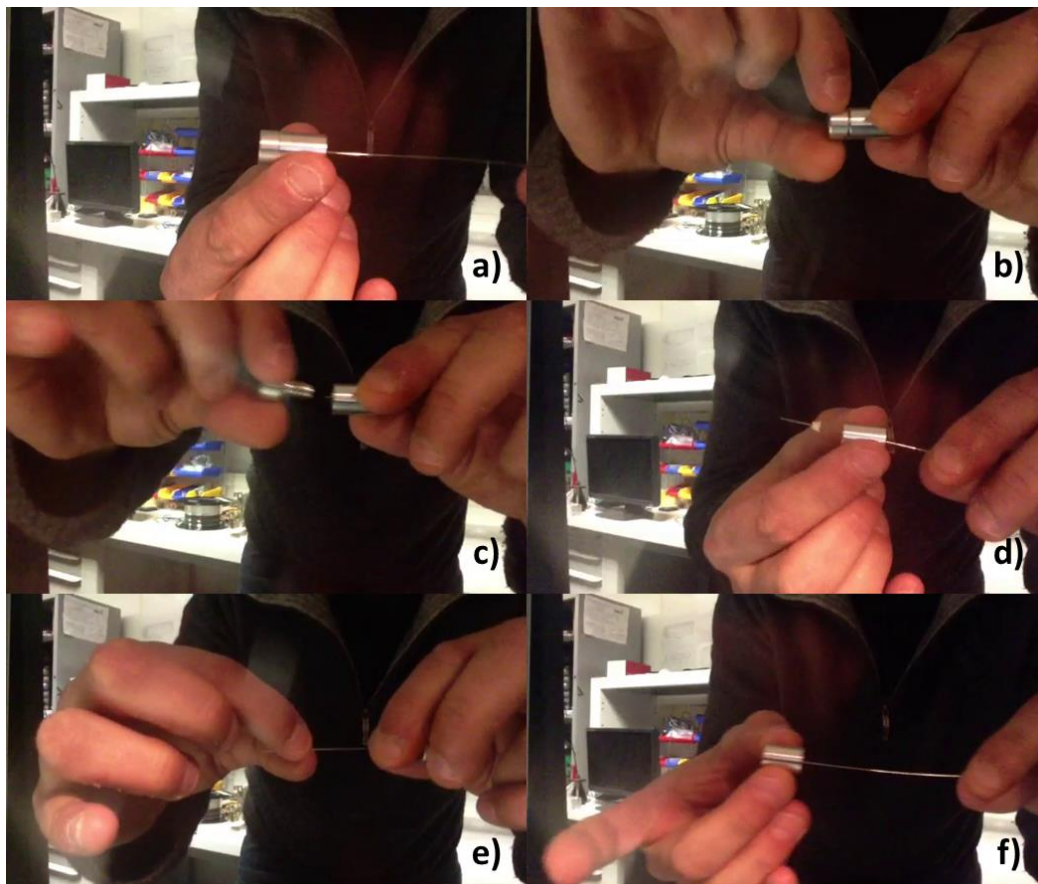

Fig 7.1 : caps releasing procedure
- Hold the metallic cap in one hand (Fig 7.1.a)
- Unscrew metallic cap head (Fig 7.1.b)
- Remove metallic cap head (Fig 7.1.c)
- Push the fiber through metallic cap body (Fig 7.1.d)
- Gently pinch the fiber in one hand and white gasket in the other and pull the gasket away (Fig 7.1.e)